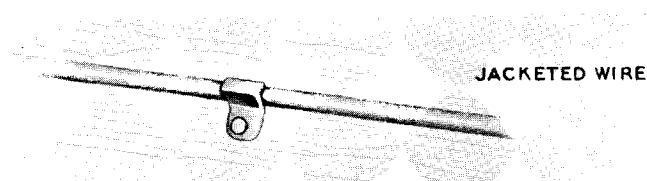

Fig. 2 — B Station Wiring Clamp
3.03 The *B station wiring clamp* is shown in Fig. 2. Table B indicates the fasteners to be used to attach these clamps to various surfaces.